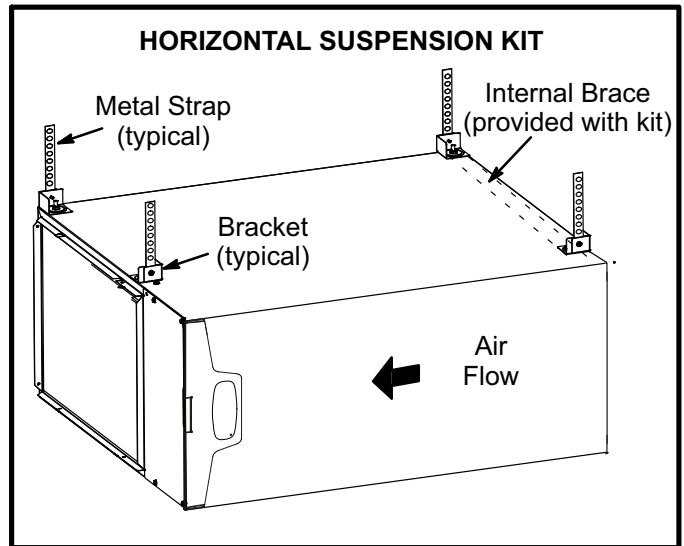
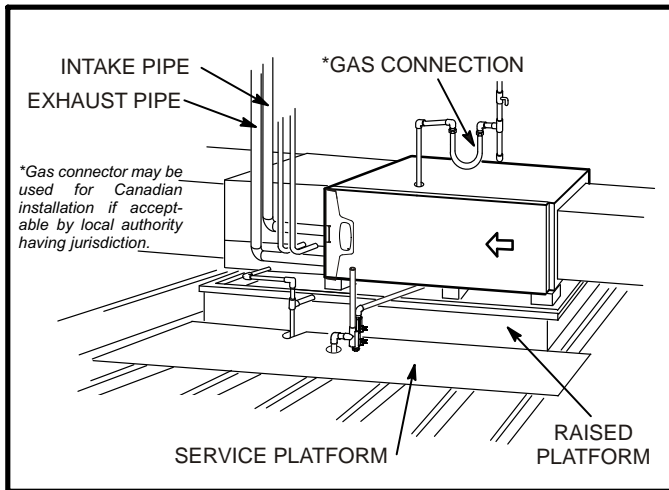

FIGURE 18
FIGURE 19
This furnace may be installed in either an attic or a crawlspace. Either suspend the furnace from roof rafters or floor joists, as shown in figure 18, or install the furnace on a platform, as shown in figure 19. A horizontal suspension kit (51W10) may be ordered from Lennox or use equivalent.
- 2 - Construct a raised wooden frame and cover frame with a plywood sheet. If unit is installed above finished space, install an auxiliary drain pan under unit. Set unit in drain pan as shown in figure 19. Leave 8 inches for service clearance below unit for condensate trap.